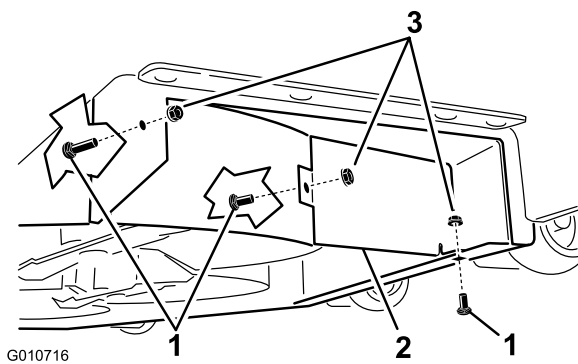

Figure 9
9. Locate the baffle guard in loose parts. Use two carriage bolts (5/16 x 3/4 inch) and two lock nuts (5/16 inch) to the deck to secure the baffle guard to the right baffle and the mower deck as shown in Figure 9. Hand tighten the fasteners.